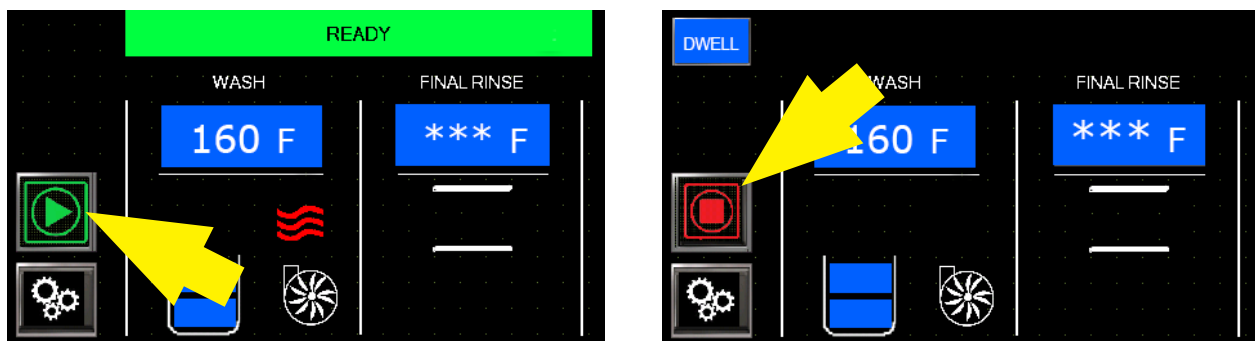

Fig. 88 - Press the green start button.
- 1 Press the green start button. It changes to a red stop button, Fig. 88.